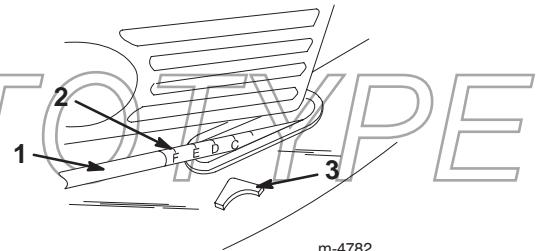

Figure 17
5. Lift up or press down on the handle, and use the pointer and the cutting height setting on the link rod to set the lawn mower to the desired cutting height (Fig. 17).